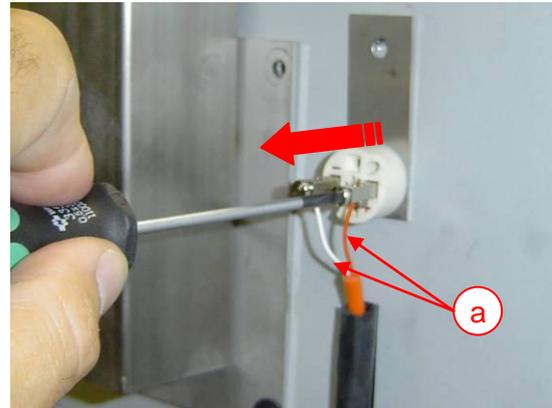
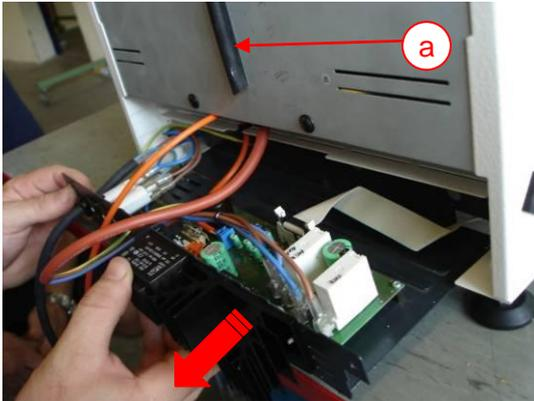

Abb. 21 - thermocouple wires
Fig. 24 – removing power electronics
- Disconnect the compensating wire (Fig. 21)
- Remove the sensor wire from thermocouple (Fig 21) and pull the compensating wire out of the guide (Fig 24 a)
- Remove the compensating wire from thermocouple (Fig 21) and pull the compensating wire out of the guide (Fig 24 a),